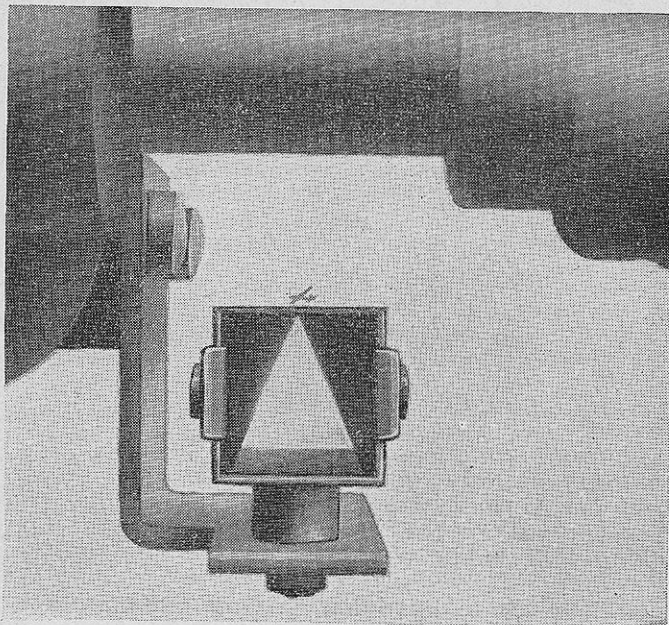

FIGURE 18.—Sight on the target over, not through, the open sight.
(5) Because the data from the radar to the director is smooth and accurate, the precautions in a(5) above are applicable only in a limited sense. The radar should immediately notify the director position of any change in the target course or actions. Likewise, any change in operational procedure at the radar should be reported to the director position, for example, when the radar switches over from manual operation to automatic.
■ 41. **AA FIRE WITHOUT RADAR.**—The altitude receiver switch is always in the H position when no radar is assigned to the battery. Target warning comes via AAAIS or lookout. In picking up a target for tracking, the open collimator sight is used to direct the azimuth and elevation telescopes to the target. It is to be sighted over, not through, and the target should be balanced on the triangle visible within the sight. (See fig. 18.) The director corporal stands behind the director with his eye about 8 inches from the sight. He positions the target with the slewing hand-wheel until the trackers can see it through their telescopes and take over the tracking.